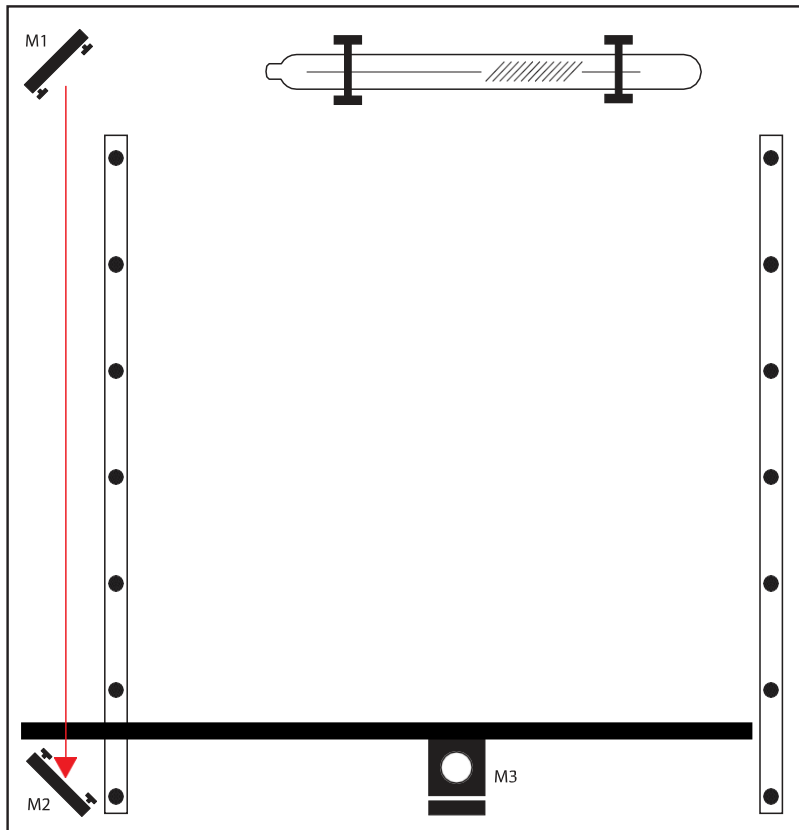

Figure 4.8
- 3. Position X-Gantry “Far”:** Jog the x-gantry to the lowest position (as shown in Figure 4.8).
**8. Re-Position X-Gantry back to “Far”:** Jog the x-gantry to the far position where you did the first test fire. (as shown in Figure 4.8).